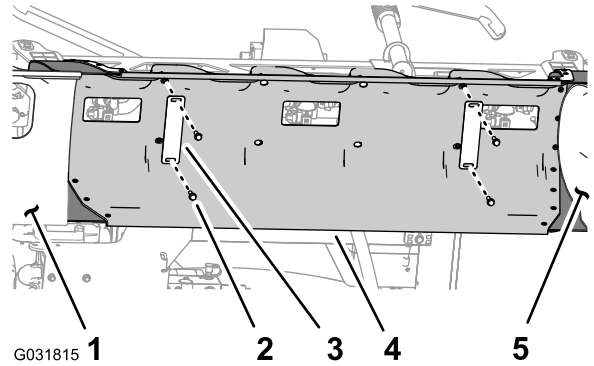

Figure 27
1. While supporting the center-section cover (11-nozzle), remove the 4 flange-head bolts (5/16 x 1-1/4 inches) and 2 cover straps that secure the cover to the cover-support bracket (Figure 27).